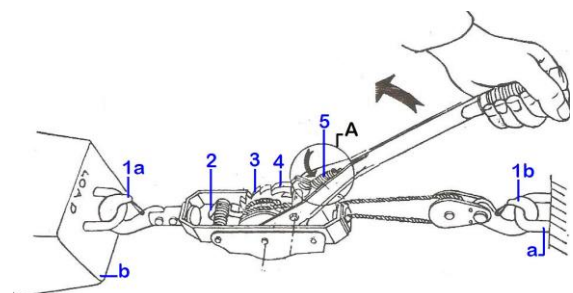

Fig.3
4.3- Rewinding the cable (Fig.3)